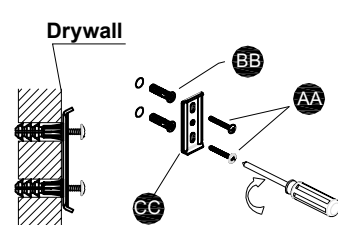

Fig. 4
4. If mounting into drywall, position plastic anchors **BB** and drive into wall by using a Phillips screwdriver. Fasten mounting bracket **CC** to wall with mounting screw **AA** (Fig. 4).